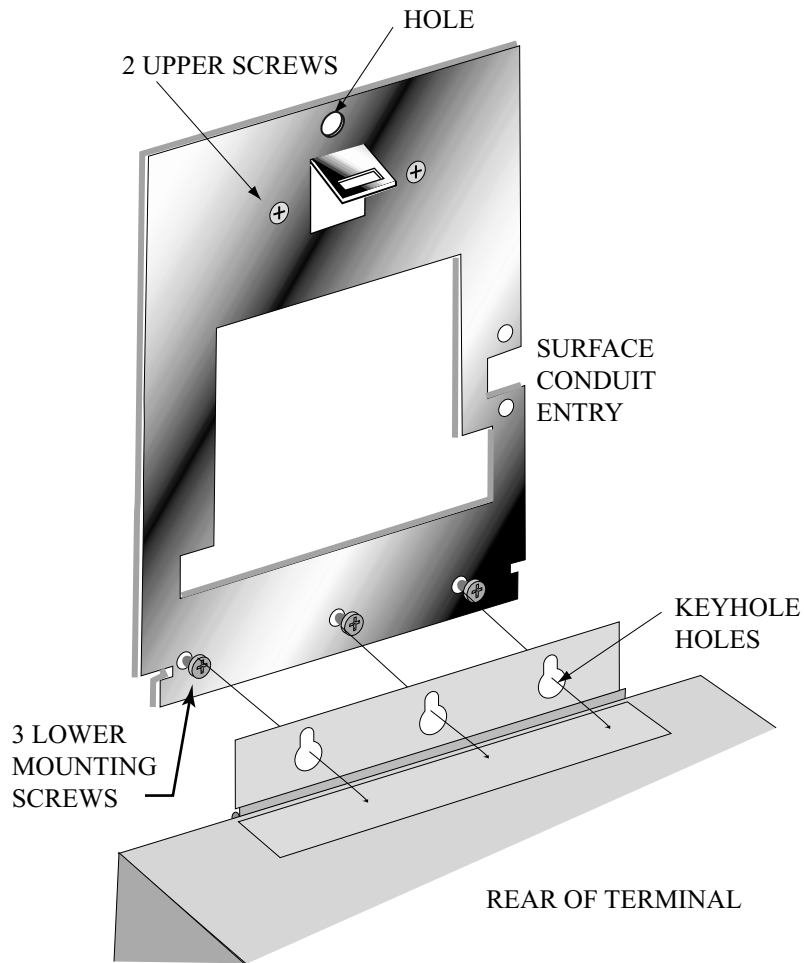

Figure 5-2: Attaching the Hand Reader to the Wall Plate
3. At the base of the Hand Reader is a piano hinge with three keyhole shaped slots that correspond with the three lower mounting screws. Align and hang the Hand Reader from the three lower mounting screws (see Figure 5-2 on page 25).